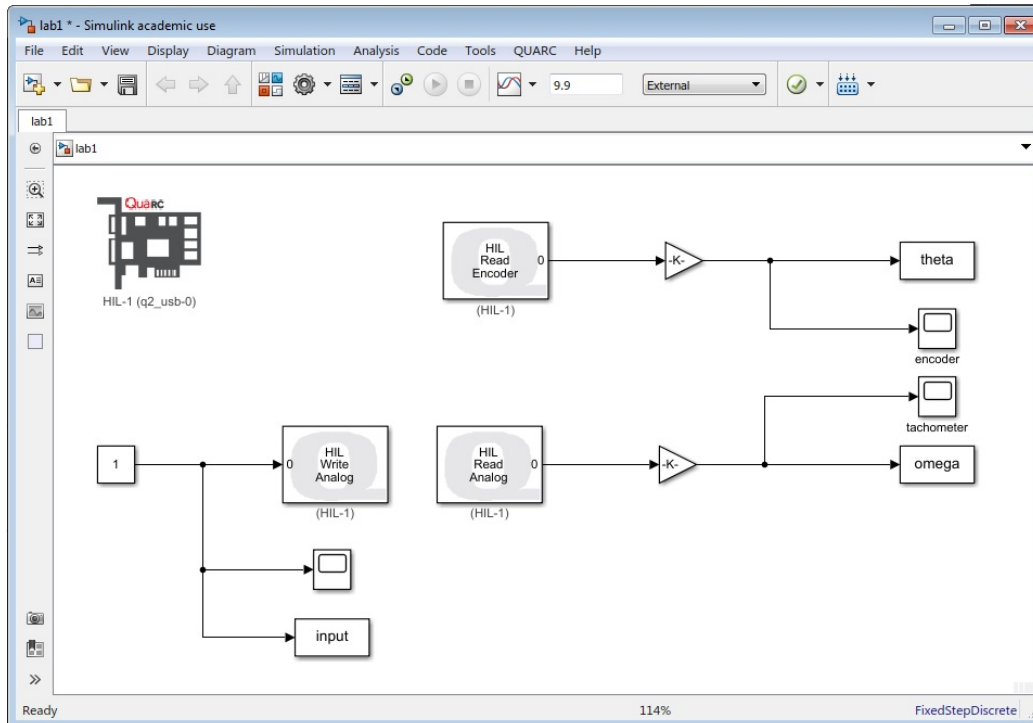

Figure 1.2: Simulink model for Lab 1
5. Build a Simulink model (the following steps will guide you through this) as shown in Figure 1.2. The model applies a constant voltage to the servomotor. The encoder is